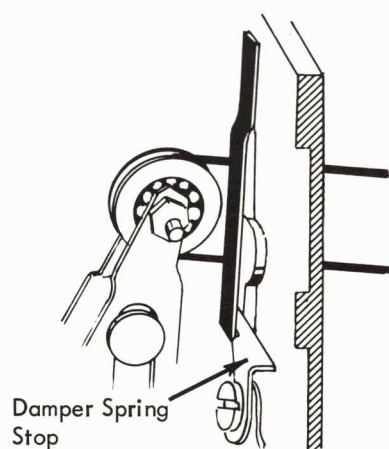

FIGURE 79. Damper, Spring Stop - Preliminary Adjustment
- a. Damper spring stop - as a preliminary adjustment, slide the damper spring stop down as low as it will go behind the damper spring (Fig. 79).